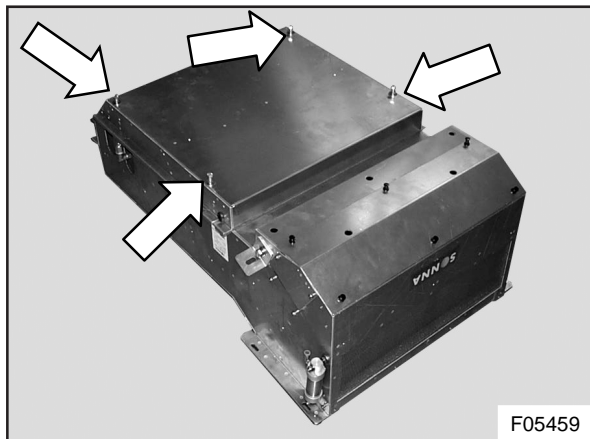

Figure 1 : Front unit bottom plate and retaining bolts
2. In the spare wheel compartment undo the four bolts securing the bottom cover plate to the front unit (see Figure 1).